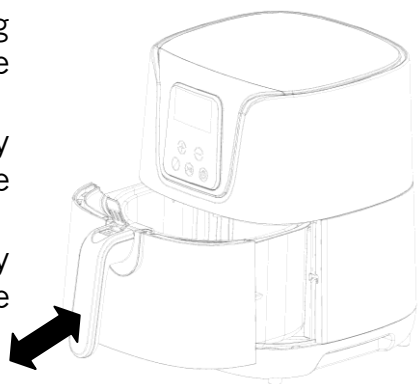

Fig.1
- How to fit and remove the frying bowl – See fig. 1